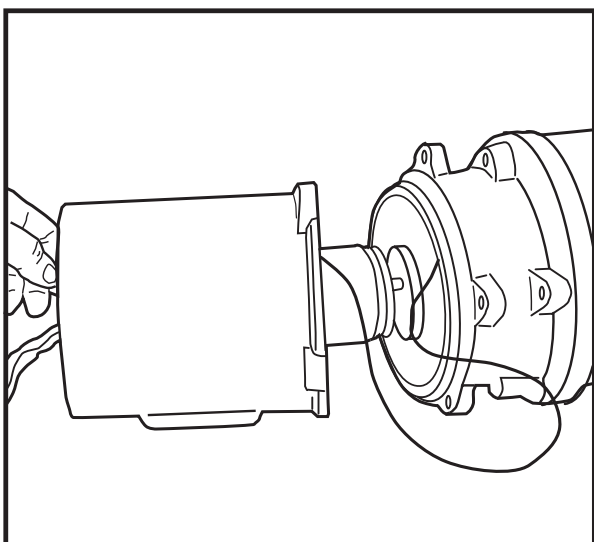

Fig. 43
16. Using fine picture hanging wire pull seal failure wire up through stator hole before replacing stator. See Figure 43. The stator is pressed into housing at the factory and is shipped as a unit. Do not try to replace stator in housing in the field, they must be replaced as a unit.